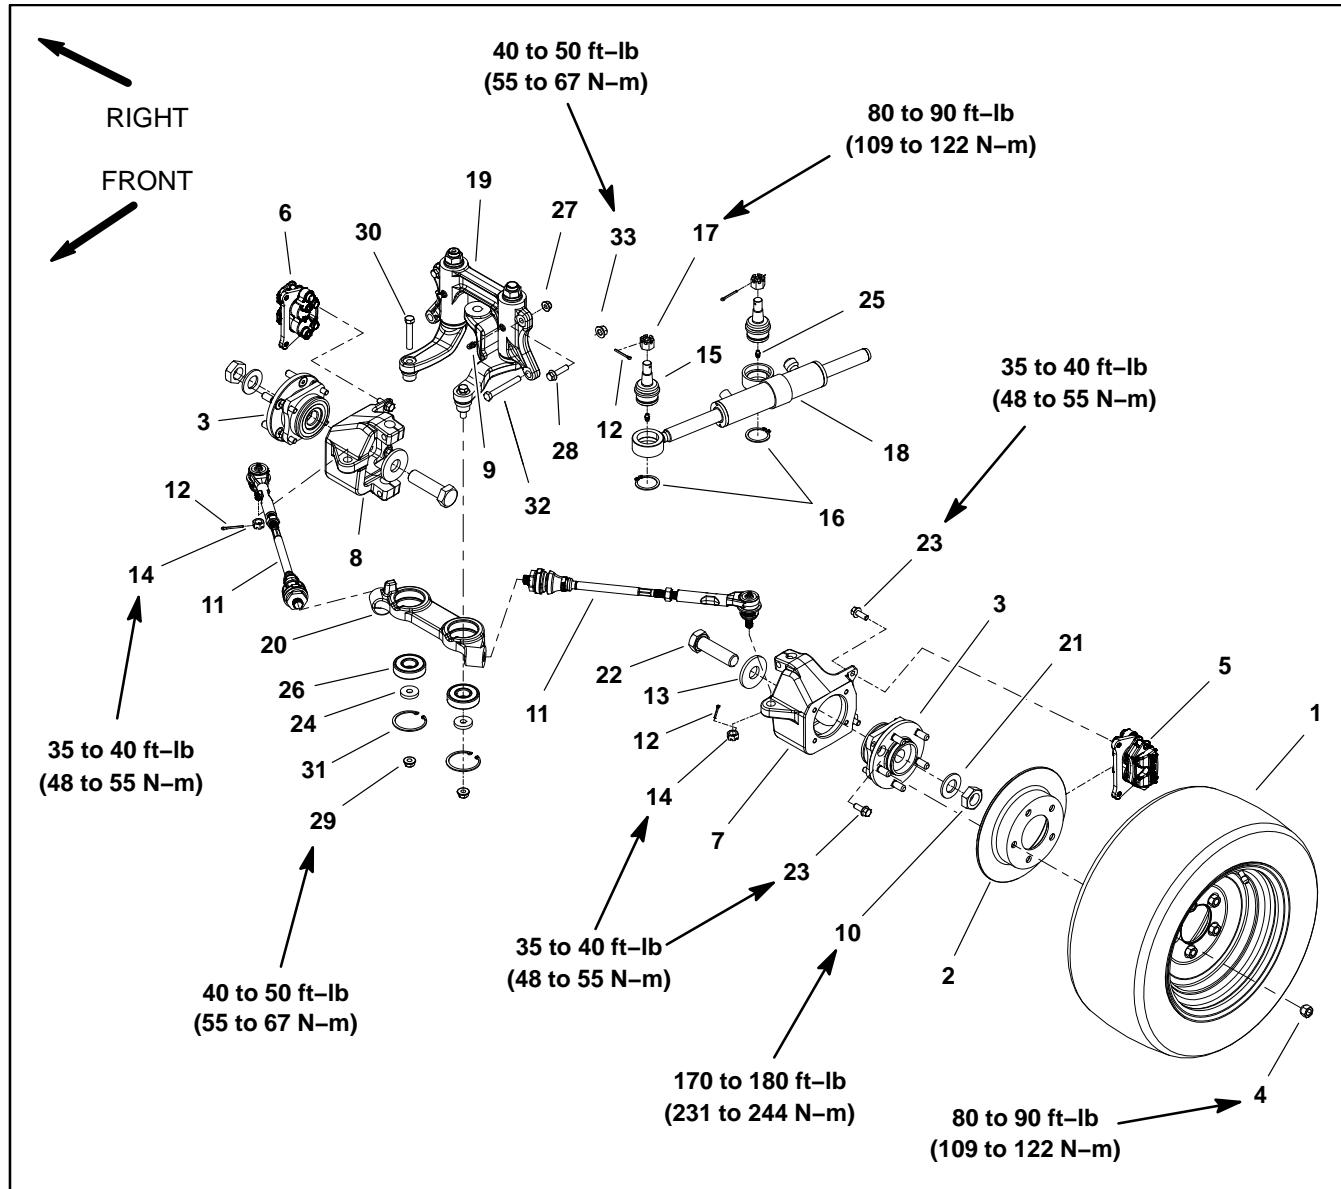
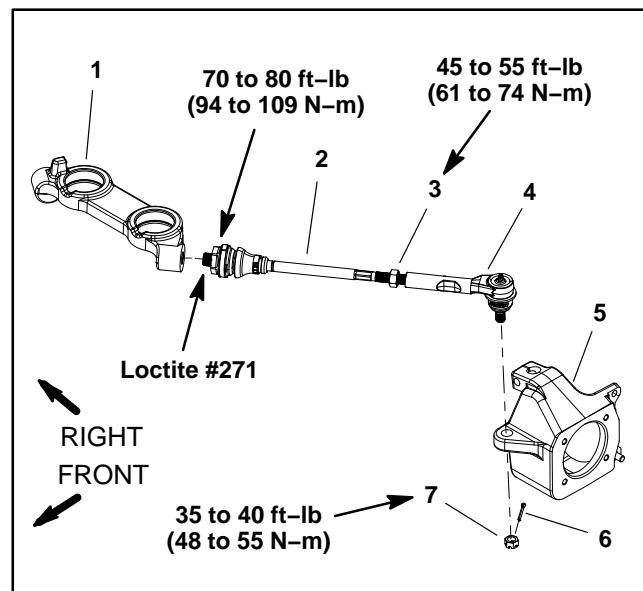

Figure 21
Figure 22
Disassembly (Fig. 21)
- To remove tie rod (item 11) from vehicle (Fig. 22):
4. To remove steering linkage (item 19) and center link (item 20) assembly from vehicle:
- Remove fasteners (items 27, 28, 32 and 33) that secure steering linkage and center link assembly to frame. Remove assembly from frame.
- If removed, disassemble steering linkage and center link assembly as required using Figures 21 and 23 as guides.
Assembly (Fig. 21)
1. If steering linkage and center link assembly were disassembled, use Figures 21 and 23 as guides for assembly.